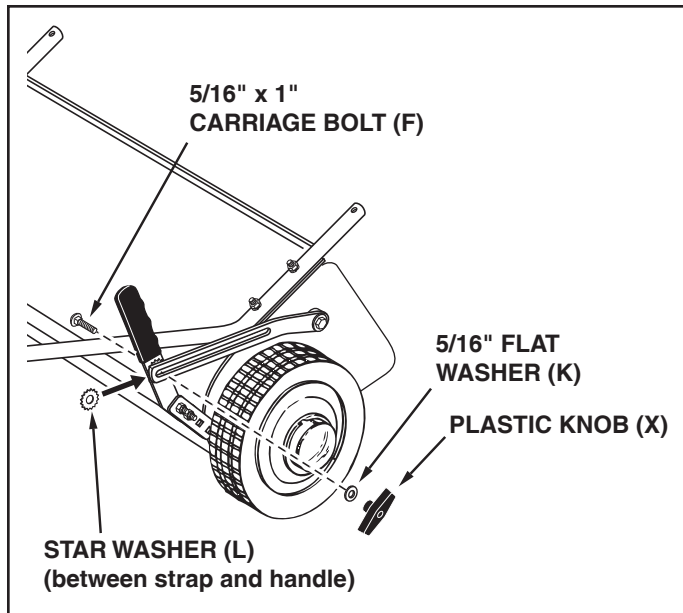

FIGURE 10
STEP 9: (SEE FIGURE 10)
- Place the star washer (L) between the height adjustment handle and the height adjustment strap. Insert the 5/16" x 1" carriage bolt (F) through the height adjustment handle, the star washer and the height adjustment strap. Assemble a 5/16" flat washer (K) and the plastic knob (X) onto the end of the bolt.